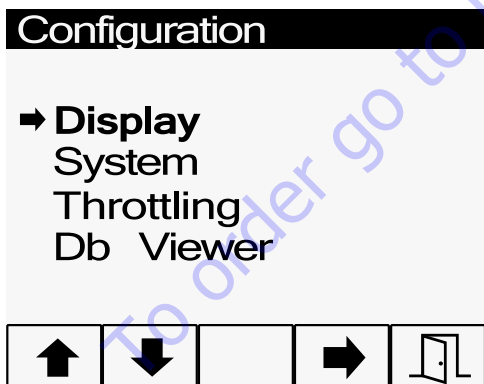

Figure 32. Configuration Menu
1. To access the configuration menu (Figure 32), press and hold button 5 for at least 3 seconds from any display.